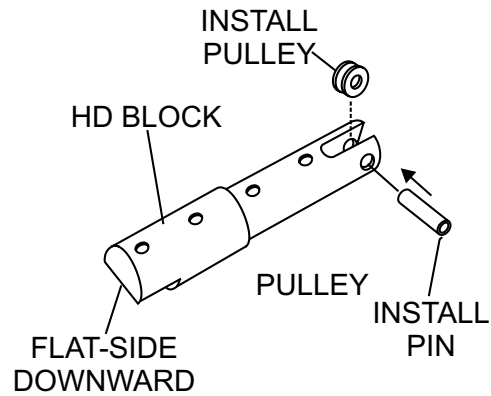

Figure 2. Pulley Installation
2. Install pulley and pin on the HD block as shown in Figure 2.